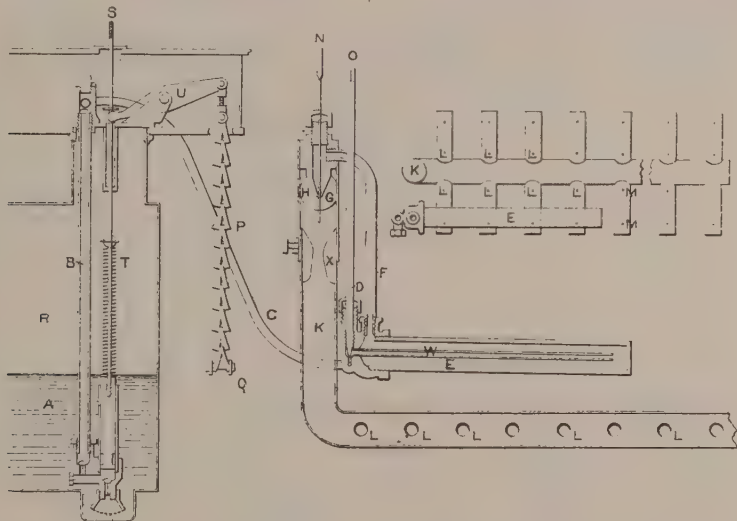

FIG. 4.—LIQUID FUEL BURNER FOR MODEL CRUISER.
Referring to the engraving (Fig. 4), the naphtha is contained in the tank R. Submerged in it in such a manner that it may be readily withdrawn for inspection is the naphtha pump A. The plunger—3-16ths in. diameter, greatest stroke $1\frac{1}{2}$ in.—is lifted by the chain P and the rocking beam U by the engine, or by hand in starting, by the stem S. The down, or forcing stroke, is made by two springs (T), which are so proportioned as to give a pres-